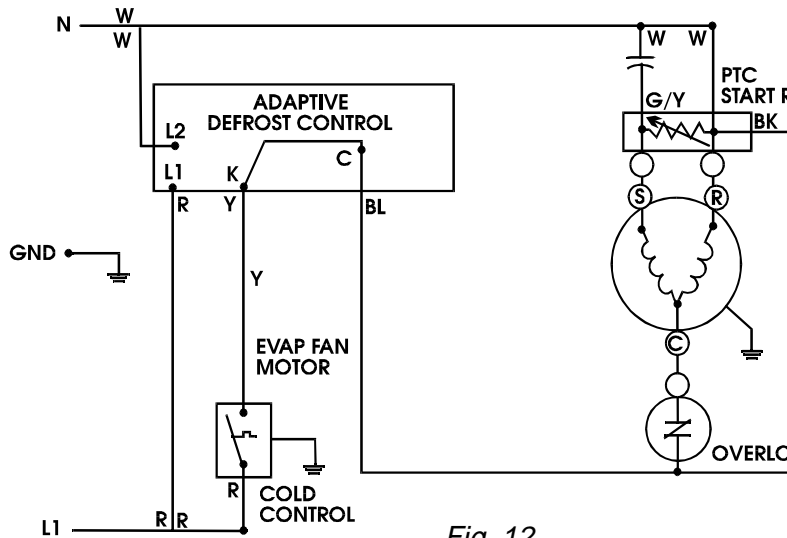

Fig. 12
1. This unit is equipped with Adaptive Defrost Control (ADC). (Fig. 12) A defrost cycle occurs after a predetermined length of compressor run time. The length of accumulated compressor run time is determined by a microprocessor that monitors the length of a defrost cycle (the time) interval between energizing the defrost heater and the defrost thermostat opening). The microprocessor then adapts or changes the amount of accumulated compressor run time between defrost cycles.